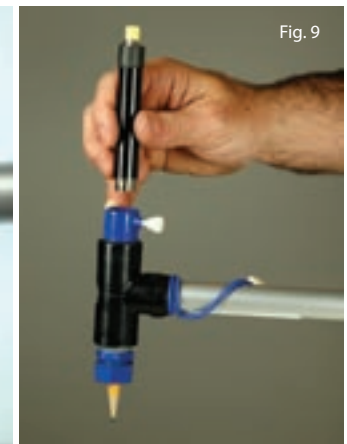

Fig. 10
2. Screw 4' extension shaft vertically into center of compass slide connector (fig 10).